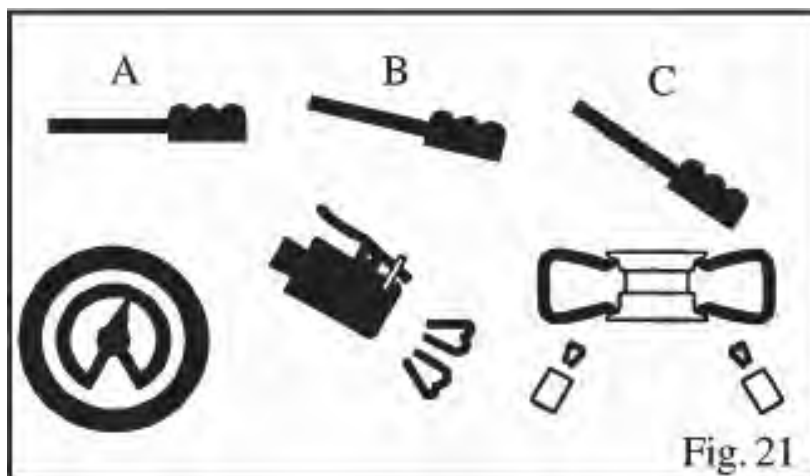

Fig. 21
**During this phase of work the level of noise can reach 85db (A). It is advisable to use a noise protection.**
- Press the pedal down to intermediate position (B – Fig. 21)
- If the bead of tire is not well seated, due to a strong bead, lift tire manually until the upper bead seats against the rim, then press pedal all the way down (C-Fig. 21). A strong jet will be released through the nozzles in the slides and this will help the bead seal.
- Release the tires; set the pedal in the intermediate position (B – Fig. 21) and continue to inflate the tire with short jets of air and constantly checking the pressure between air jets until the required pressure has been reached.